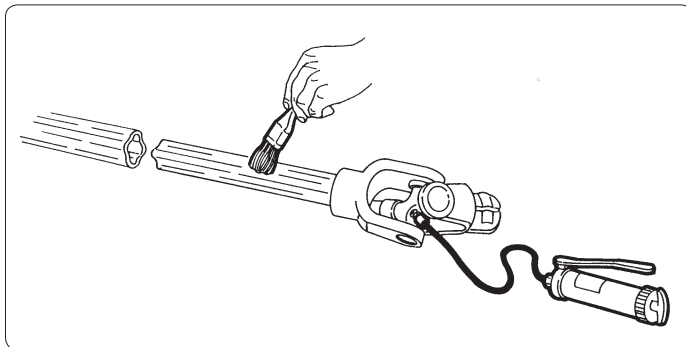

fig. 7.5.1
**7.5 - Pulizia e ingrassaggio albero cardanico (fig. 7.5.1)**
**7.5 - Cleaning and greasing the driveline (fig. 7.5.1)**